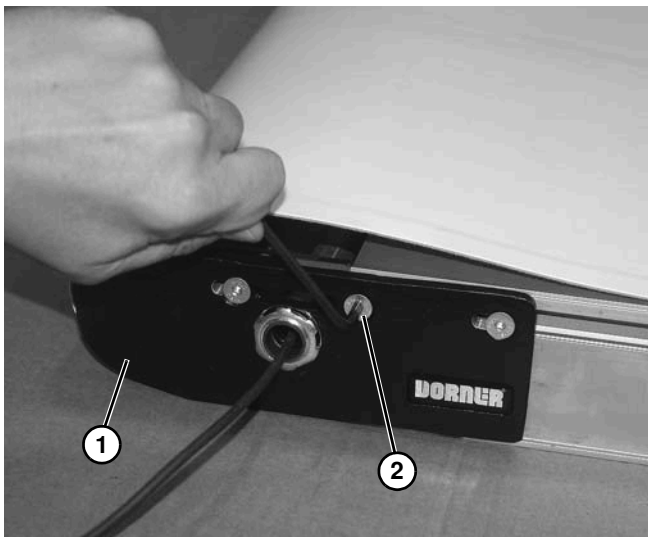

Figure 8
- c. On iDrive end of the conveyor, push in head plate assembly (**Figure 8, item 1**):
- Remove middle screw (**Figure 8, item 2**) from iDrive head plate assembly (**Figure 8, item 1**) on each side of conveyor.